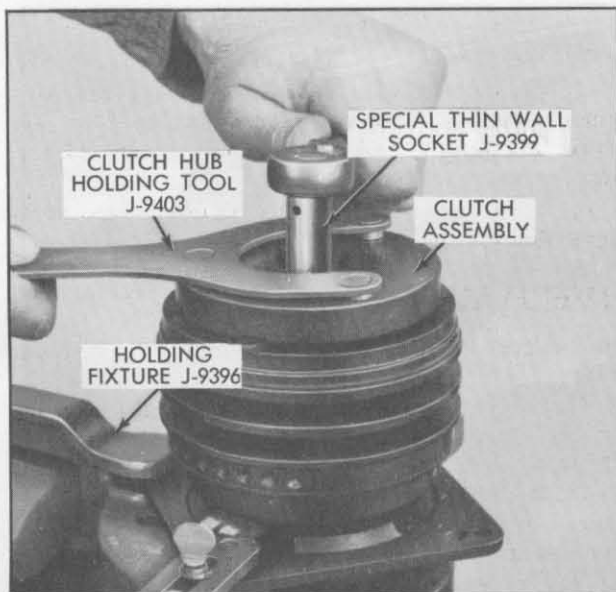

Fig. 1-56 Removing Locknut
2. Keep clutch hub from turning with Clutch Hub Holding Tool, J-9403, and remove locknut from end of shaft using Thin Wall Socket, J-9399, Fig. 1-56.
10. Install a new shaft locknut with small diameter boss of nut against hub spacer, using special Thin Wall Socket J-9399, Fig. 1-56. Hold clutch hub with Clutch Hub Holding Tool, J-9403, and tighten nut to 15 foot-pounds torque, using a 0-25 foot pounds torque wrench. Air gap between frictional surfaces of pulley and clutch plate should now be approximately 1/32 inch (.031 inch to .057 inch), Fig. 1-60.